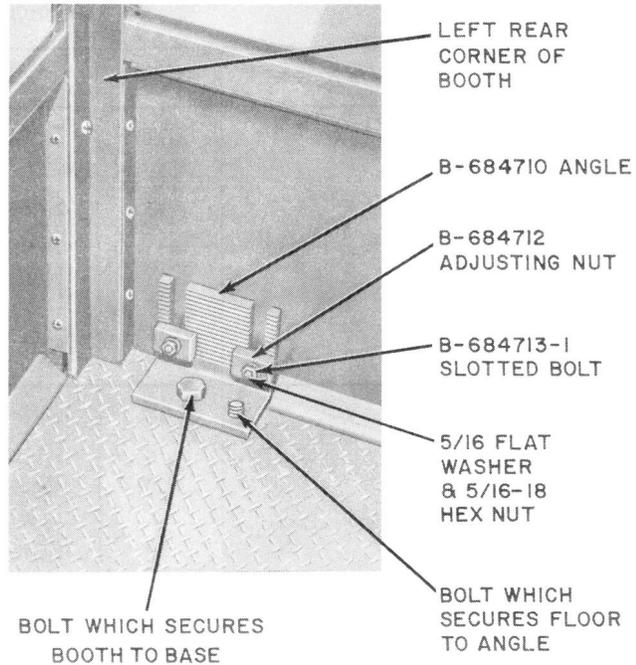

Fig. 7—Booth Anchoring Bracket
2.20 Four adjustable brackets (Fig. 7) are provided to permit leveling and anchoring.
(a) If a KS-19580, List 28 foundation template is used, remove insert plugs from template and secure anchor brackets (Fig. 7) of booth to template using four 3/8-16 by 1-1/4 hex head bolts, four 3/8-inch lockwashers and four 3/8-inch flatwashers.
(d) Adjust the anchor brackets (Fig. 7) if necessary, and ensure that the booth is level.